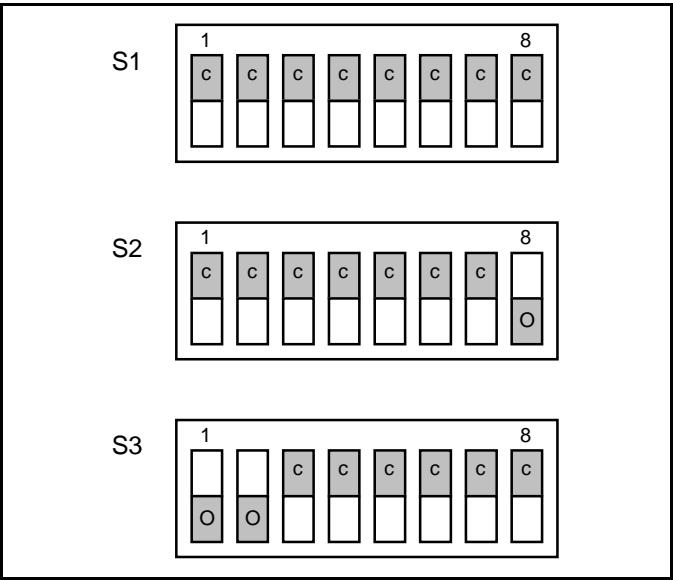

Figure 10 - Test Mode 9600 Baud, Pseudo Random Data
- 2. Record the position of the GETC dip switches and then reset the switches to the positions shown in Figure 10. Reset the GETC.